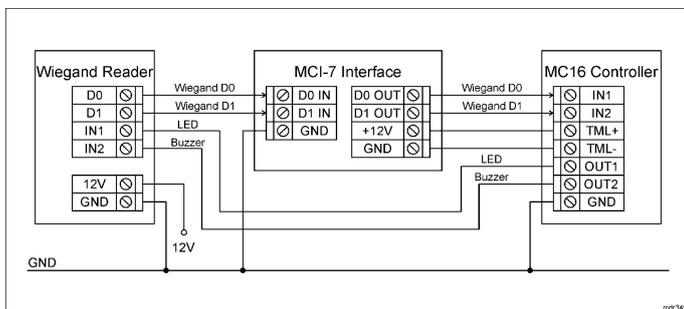

Fig. 2 Connection of MCI-7 interface to Wiegand reader and controller
- MCI-7 can be applied in various scenarios including RACS connection to MCX4020BRD expander and PR402DR series controller (RACS 4 system). In both cases the connection diagram is similar to the fig. 2.